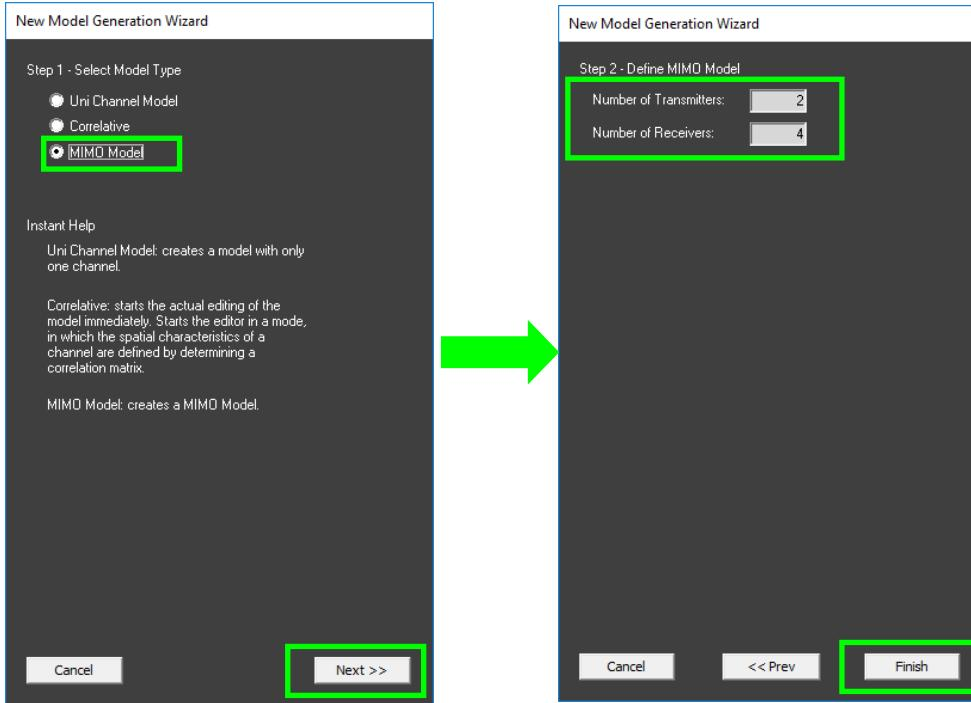

Figure 193 Creating a MIMO model
1. Select the **MIMO Model** radio button in the channel model type dialog and click **Next**. This opens the MIMO model dialog, as shown in Figure 193.